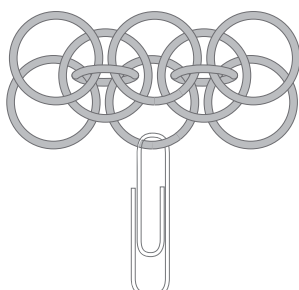

FIG. 2
3. Arrange the jump rings on your work surface by pushing up the 3 large jump rings on the top of the piece, as shown in **FIG. 2**.